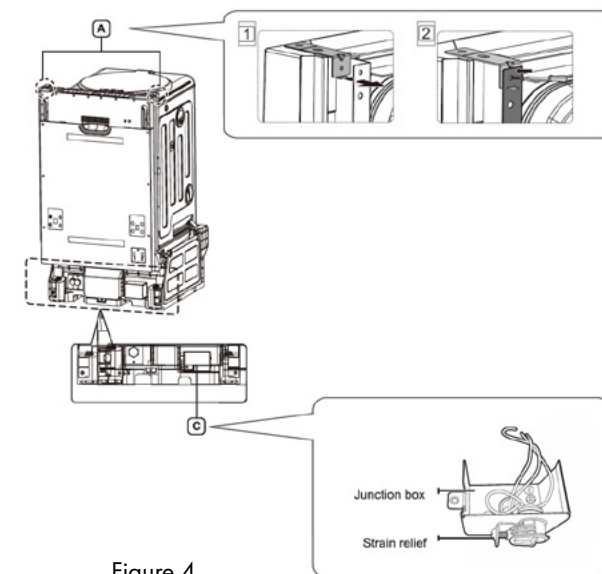

Figure 4
2. Remove the junction box cover located at the bottom front right of the dishwasher using a screwdriver, and then Install the strain relief (Figure 4 - C). Make sure to keep the junction box cover you removed. It is used in Step 11, Wiring Connections.
3. If the countertop is made of wood or a material that is not damaged by drilling, attach the two Installation brackets that were supplied with the dishwasher using the supplied screws (Figure 4 - A). They will be used in Step 9, Securing the Dishwasher.